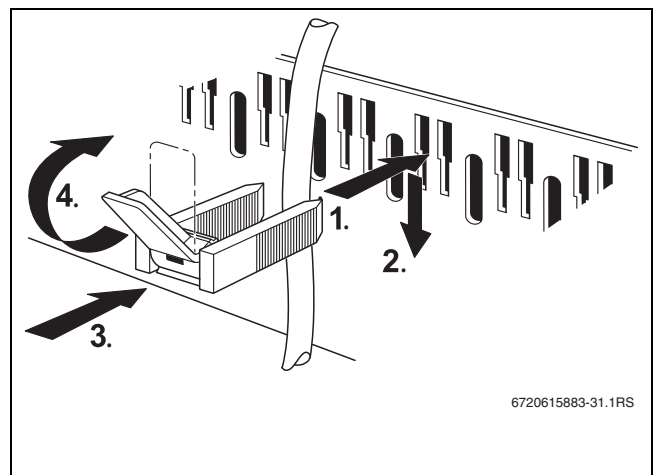

Fig. 27 Securing a cable with a cable clip
- Insert the cable clip together with the cable from above into the slots in the frame (→ fig. 27, page 26).